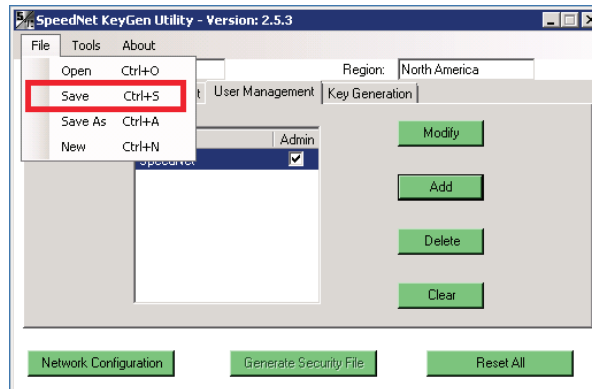

Figure 29. The SpeedNet KeyGen Utility window save SAD.
STEP 25. Open the **File** menu in the upper-left corner of the **SpeedNet KeyGen Utility** window. Scroll down and select **Save**. See Figure 29.